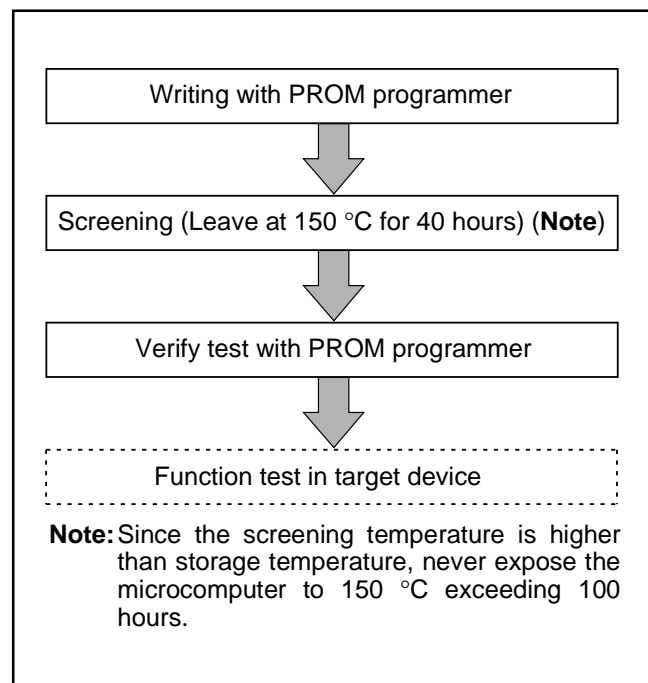

Fig. 53 Flow of writing and test of the product shipped in blank
(2) Notes on handling
① A high-voltage is used for writing. Take care that overvoltage is not applied. Take care especially at turning on the power.
② For the One Time PROM version shipped in blank, Mitsubishi Electric corp. does not perform PROM writing test and screening in the assembly process and following processes. In order to improve reliability after writing, performing writing and test according to the flow shown in Figure 53 before using is recommended (Products shipped in blank: PROM contents is not written in factory when shipped).